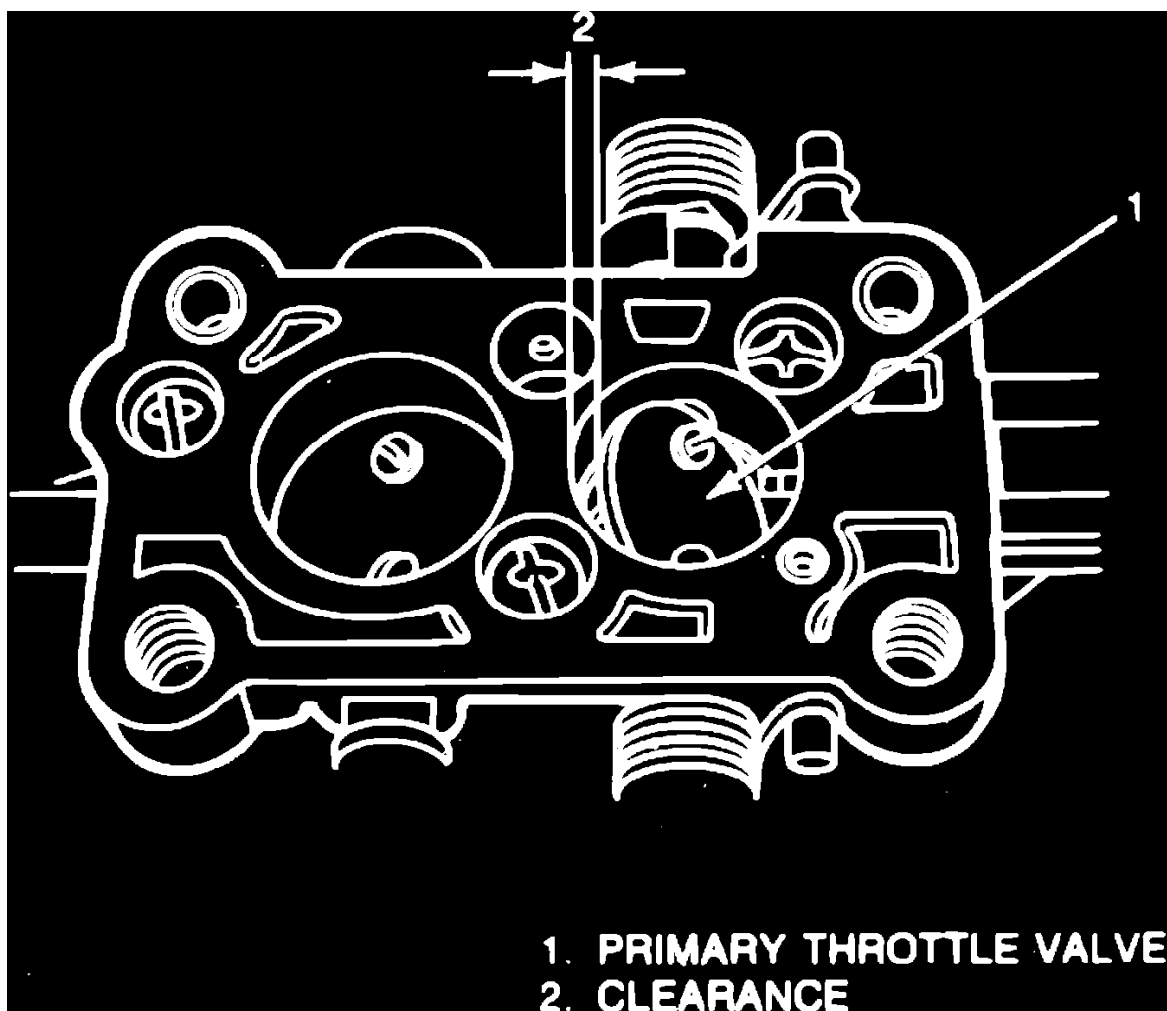

Fig. 13 Throttle plate clearance measurement
3. Open throttle gradually until ohmmeter indicates zero ohm. Measure clearance between throttle butterfly and carburetor bore, **Fig. 13**. Clearance should be .29 - .33 inch (7.2 - 8.4 mm). If clearance is out of range, adjust by bending lever, **Fig. 14**.